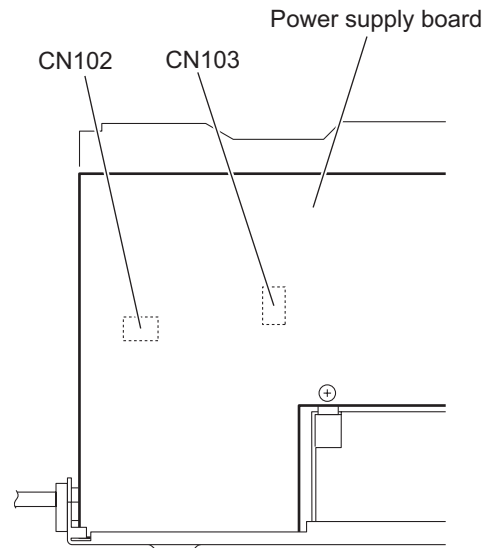

Fig.22
### 3.1.13 Removing the power transformer (See Figs.22 and 23)
(1) From the forward side of the power supply board, disconnect the wires from the connectors \(CN102, CN103\). (See Fig.22.)